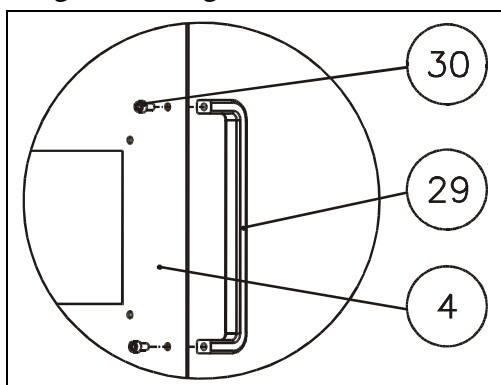

Figure 7: Attaching Door Handles
10. See Figure 7. Using M5 screws, attach a door handle to each door.